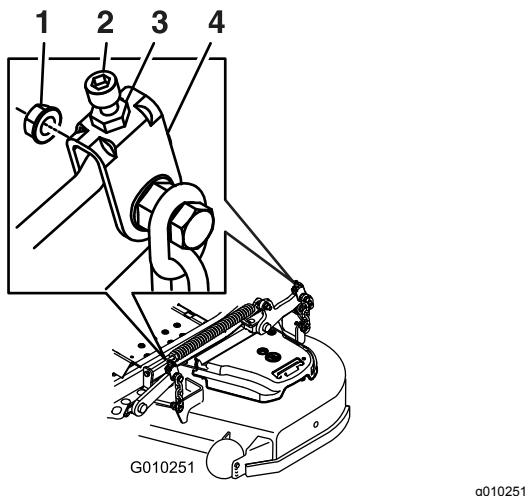

Figure 100
11. For mower decks shown in Figure 100, fine-tune the adjustment nut on the front deck-lift assembly by turning it (Figure 100).
- Fine-tune the screw adjuster by turning it to get 8.3 mm (3-1/4 inches) height (Figure 100).